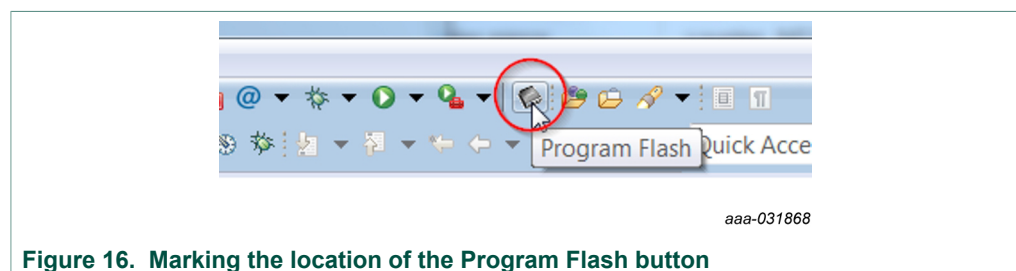

Figure 16. Marking the location of the Program Flash button
3. Click the Program Flash icon in the toolbar (see Figure 16).